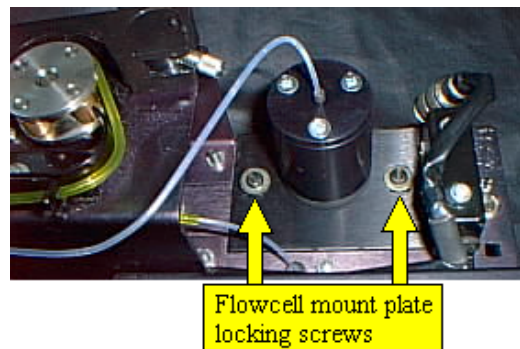

Figure 39 The mount plate
3. Loosen the two mount plate locking screws, as shown in Figure 39. This enables the mount plate to move freely during alignment.
12. Remove the accessory from the LS-50B sample area and tighten the locking screws shown in Figure 39.